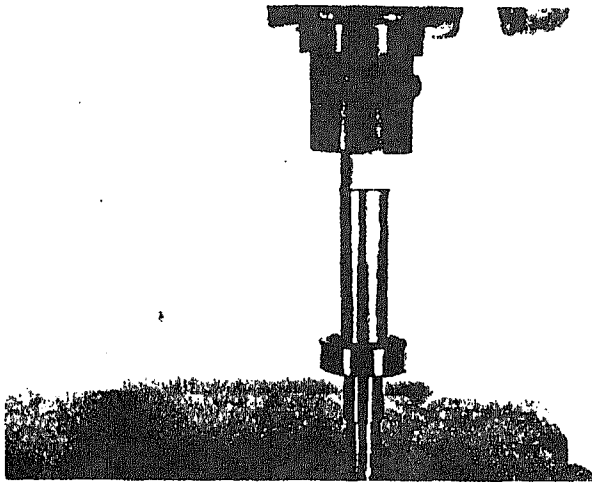

Fig. 506-8 Pressing drive bearing on shaft
1. If bearing or shaft is replaced new, Lubriplate shaft and press bearing over shaft, pressing against inner race of bearing. Fig. 506-8.